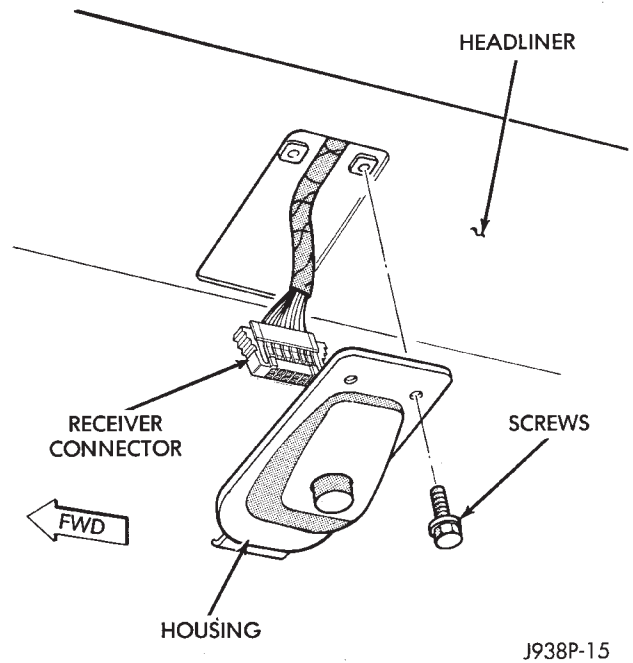

Fig. 10 Remove/Install Keyless Entry Housing
- (1) Remove 2 screws attaching receiver housing to headliner (Fig. 10).
- (2) Pull housing toward rear of vehicle to disengage clip.
- (3) Disconnect receiver harness connector.
- (4) Remove circuit board from housing.
- (5) Reverse the removal procedures to install the receiver.